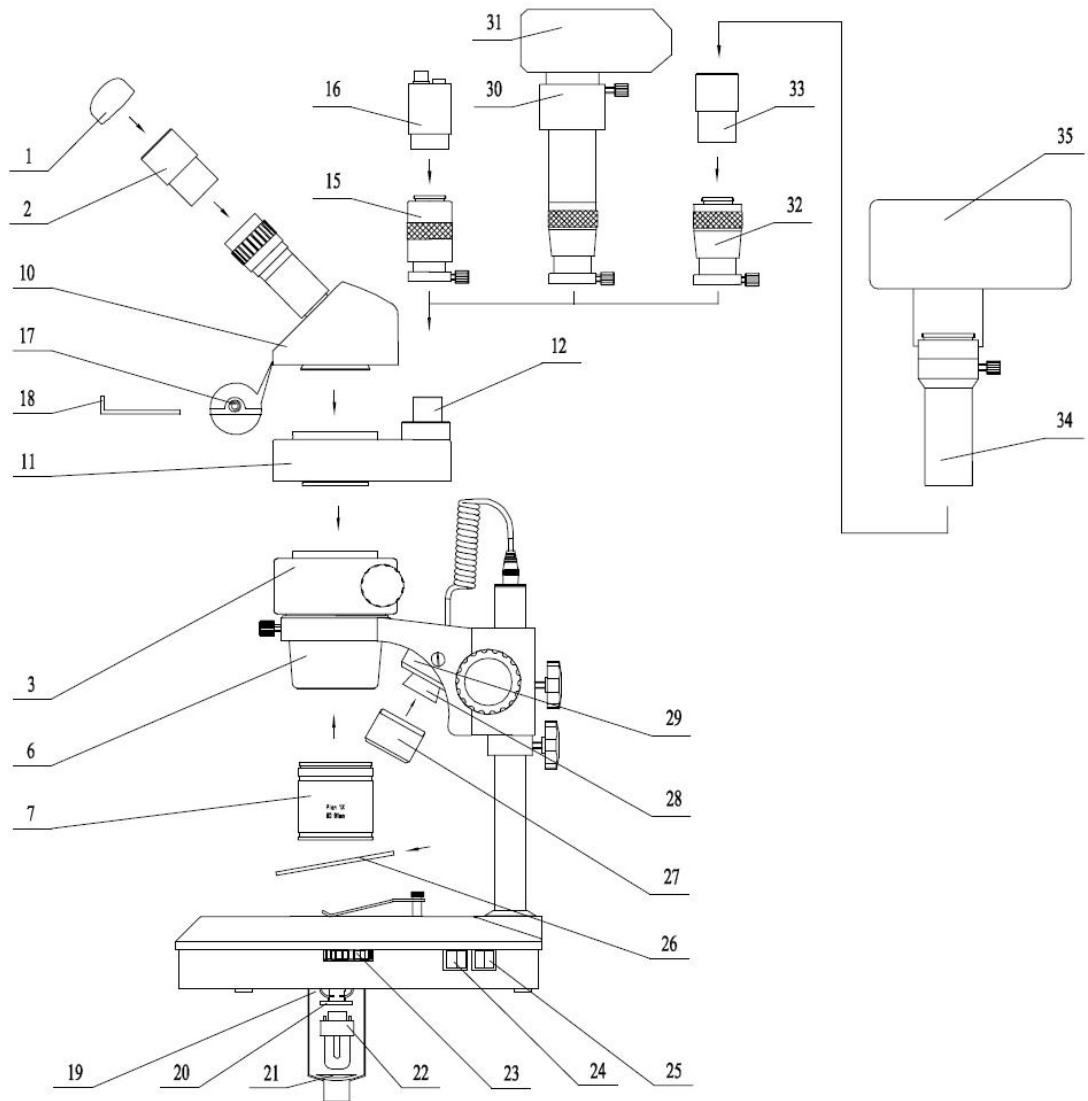

Figure 2
Please see Figure 1, Figure 2 to assemble.
- ② The fluorescent lamp 22 of the down illuminator source haven't installed, please install the fluorescent lamp before use. Open the activity panel 19, insert the fluorescent lamp into Lamp holder 20 (Figure 2).
- ③ Install achromatic objective: